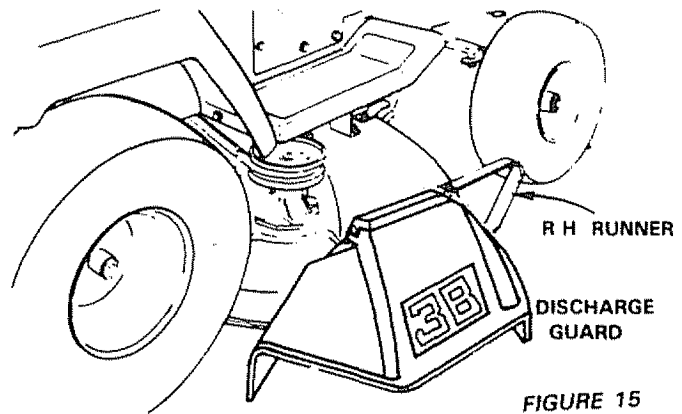

FIGURE 15
- a. Use the runner on the R.H. side as a guide; the blade cuts approximately an inch outside the runner (Fig. 15).
Your mower has a flip-up discharge guard (Fig. 15) for door or gate clearance when held in raised position.